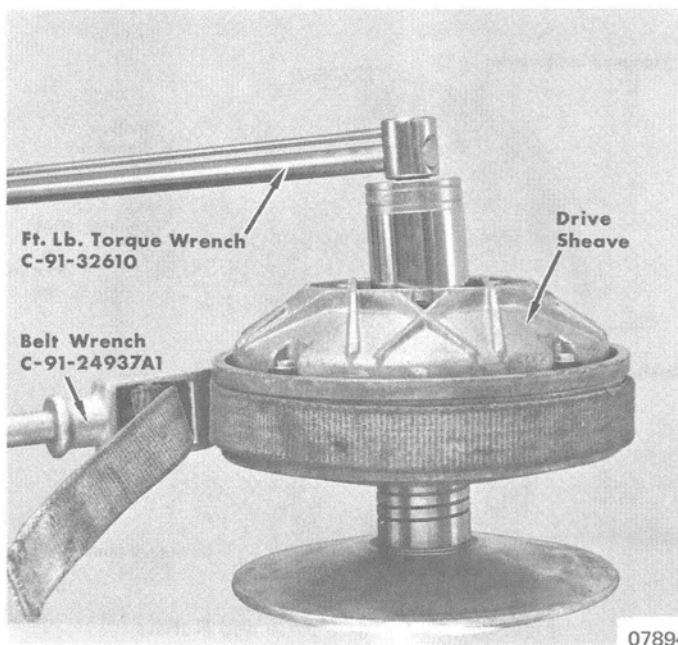

Figure 7. Torquing Retaining Screw
- Place drive sheave on a suitable shaft or on 8" bolt clamped in vise. Using Belt Wrench (C-91-24937A1), hold sheave and torque retaining screw to specification as shown in Figure 7. (Refer to "Specifications" Section 8.)